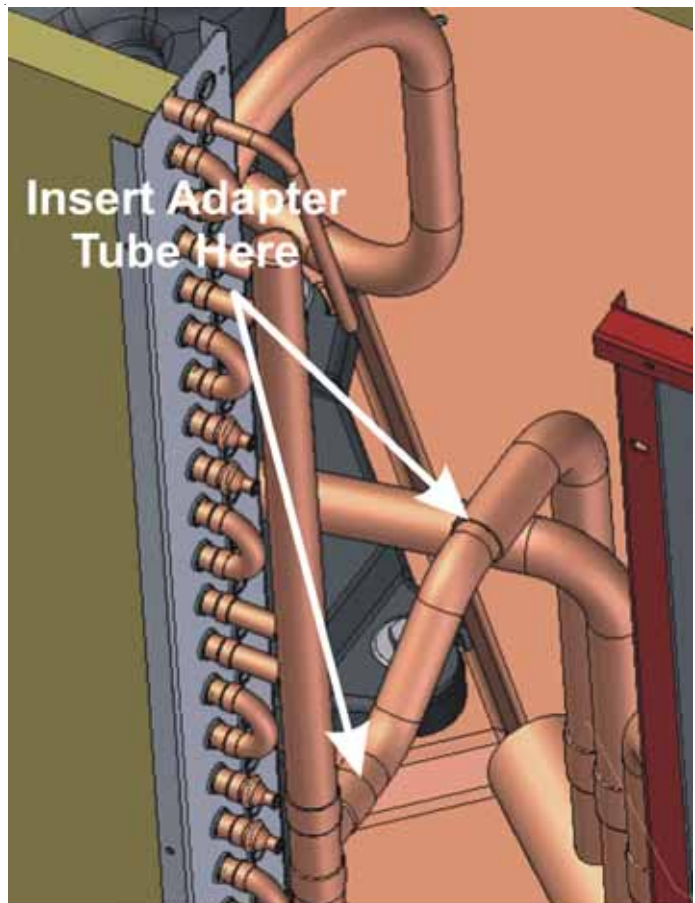

Figure 2
3. Insert adapter tube supplied with replacement coil inside the tube that was cut in Step 1. Insert other end of adapter tube in tee on coil manifold. (See Figure 2)